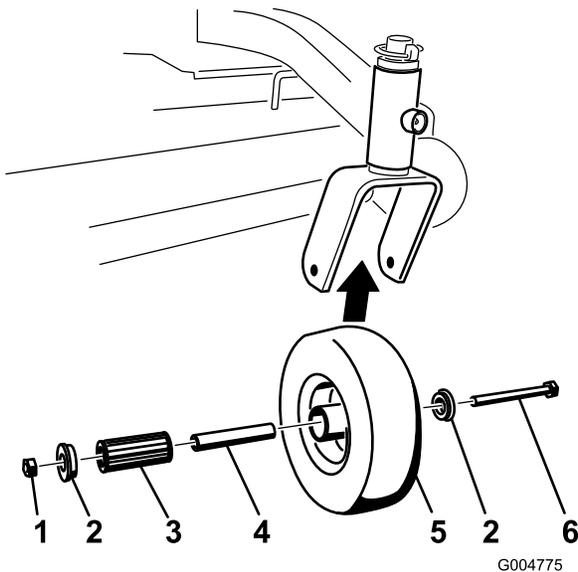

Figure 45
- Remove the locknut and wheel bolt holding the caster wheel to the caster fork (Figure 45).
- Remove one bushing, then pull the spanner bushing and roller bearing out of the wheel hub (Figure 45).
- Remove the other bushing from the wheel hub and clean any grease and dirt from the wheel hub (Figure 45).
- Inspect the roller bearing, bushings, spanner bushing and inside of the wheel hub for wear. Replace any defective or worn parts (Figure 45).
- To assemble, place one bushing into the wheel hub. Grease the roller bearing and spanner bushing and slide them into the wheel hub. Place the second bushing into the wheel hub (Figure 45).
- Install the caster wheel into the caster fork and secure with the wheel bolt and locknut. Tighten the locknut until the spanner bushing bottoms against the inside of the caster forks (Figure 45).